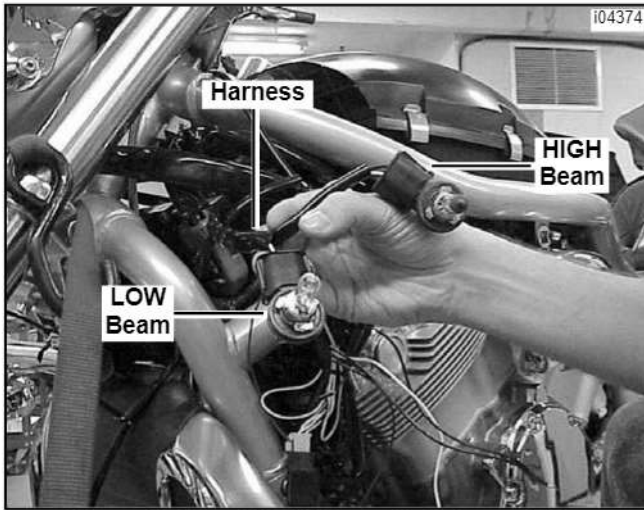

Figure 6. HI and LOW Beam Bulb Assemblies (VRSC Models)
12. **VRSC models:** See Figure 6. Route the underterminated wire from the switch toward the HI and LOW beam harness.